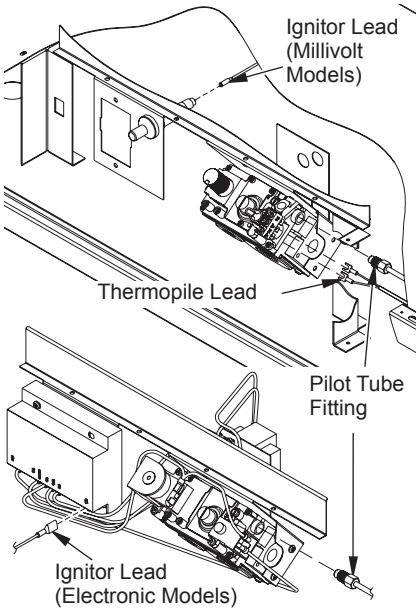

Figure 3 - Disconnecting Pilot Leads
2. Disconnect the 7/16" pilot line fitting and remove 2 thermopile leads connected to terminals marked TP/TH and TP on control valve (see Figure 3).
3. Disconnect ignitor lead wire connected at rear of piezo ignition device or at terminal marked IGN on module (electronic models) (see Figure 3).